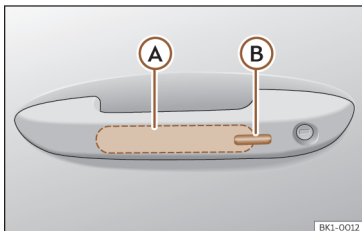

Fig. 67 Driver door lever: sensor surfaces.
>>> **Fig. 67**
- Touch the sensor surface >>> **Fig. 67 (B)** on the outside of the door handle. All turn signals flash once.
- Within 5 seconds, touch the sensor on the outside of the door handle >>> **Fig. 67 (B)** once. Do not grip the handle while doing so. This temporarily deactivates the Keyless Access system.